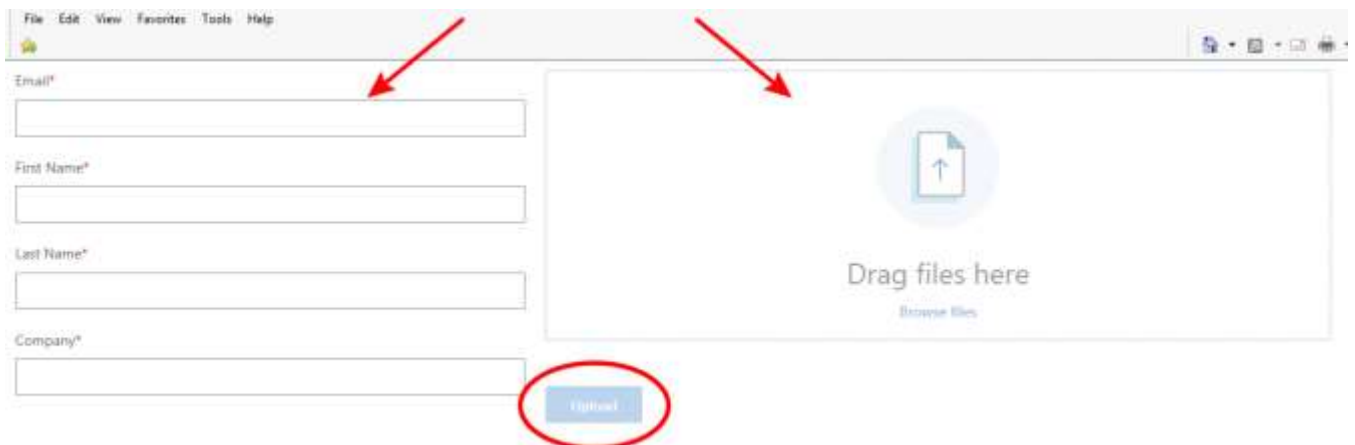

Figure C-42
3. Enter your email, name, and company in the designated areas on the left-hand side of the page (Figure C-42).